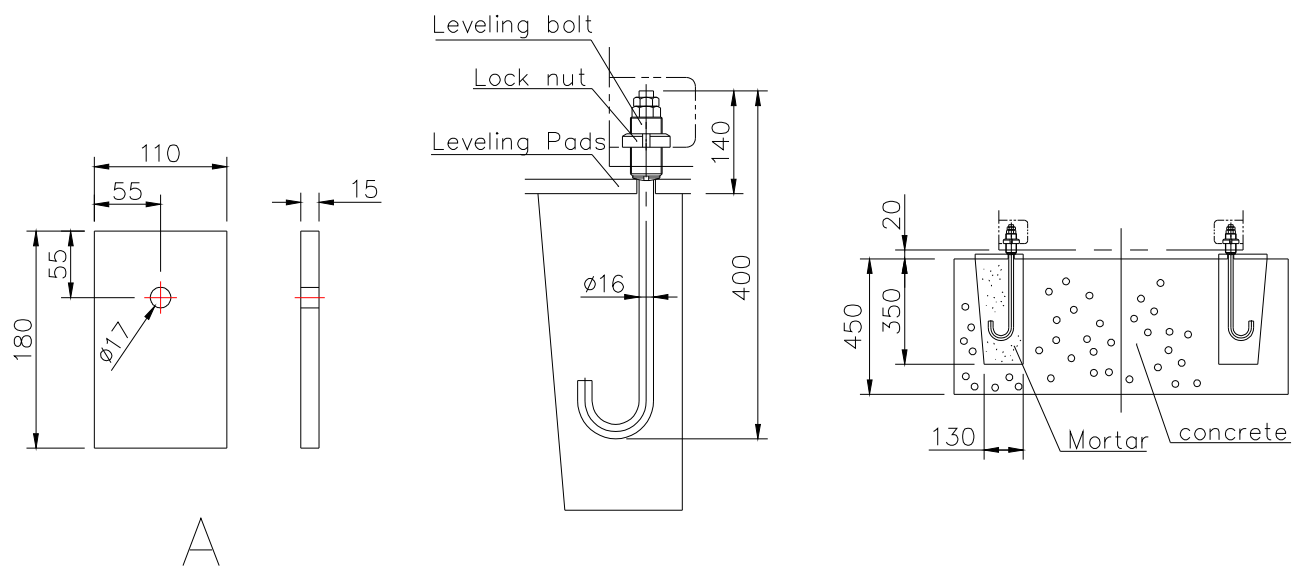

FIG. 3.6.2 FOUNDATION DRAWING
- A. CLEAN THE REVERSE SURFACE OF THE LEVELING PADS AND THE SUPPORTING PADS. AND PLACE THE LEVELING PADS AND THE SUPPORTING PADS ACCORDING TO THE FLOOR PLAN FIG 3.6.2